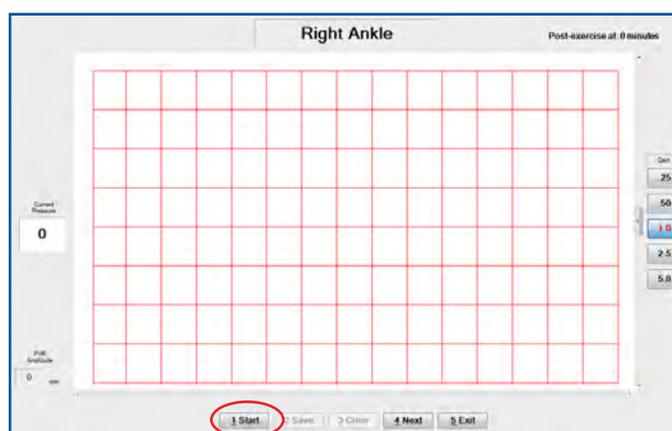

FIGURE 1.35 - Right Ankle - “Start” Button
52. Click “Start” to record the Right Ankle PVR (Figure 1.35).